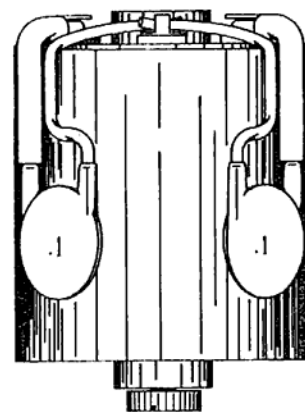

FIG. 3
- ☐ Mount and solder the prepared .1 ufd caps to the motor terminals in figure 3. Do not remove the motor from the servo case to accomplish this step.